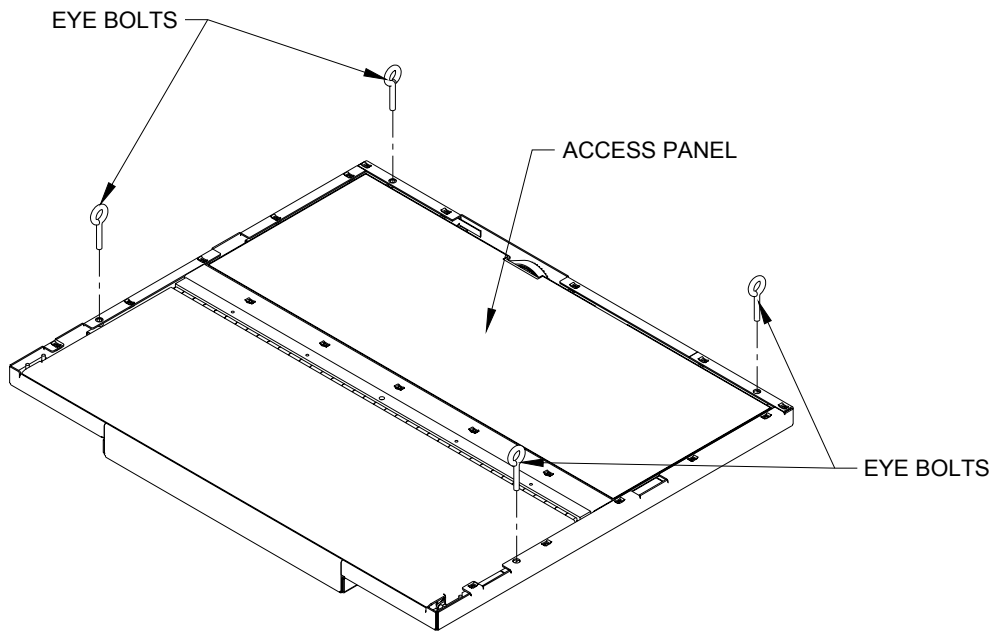

FIGURE 2-2: EYE BOLT LOCATIONS
- c. Refer to **Figure 2-2**. Install eye bolts (provided in kit #39022) in the locations shown in **Figure 2-2**. Use crane or lifting hoist to place ramp into train.
- e. Refer to **Figure 2-2**. Remove access panel.